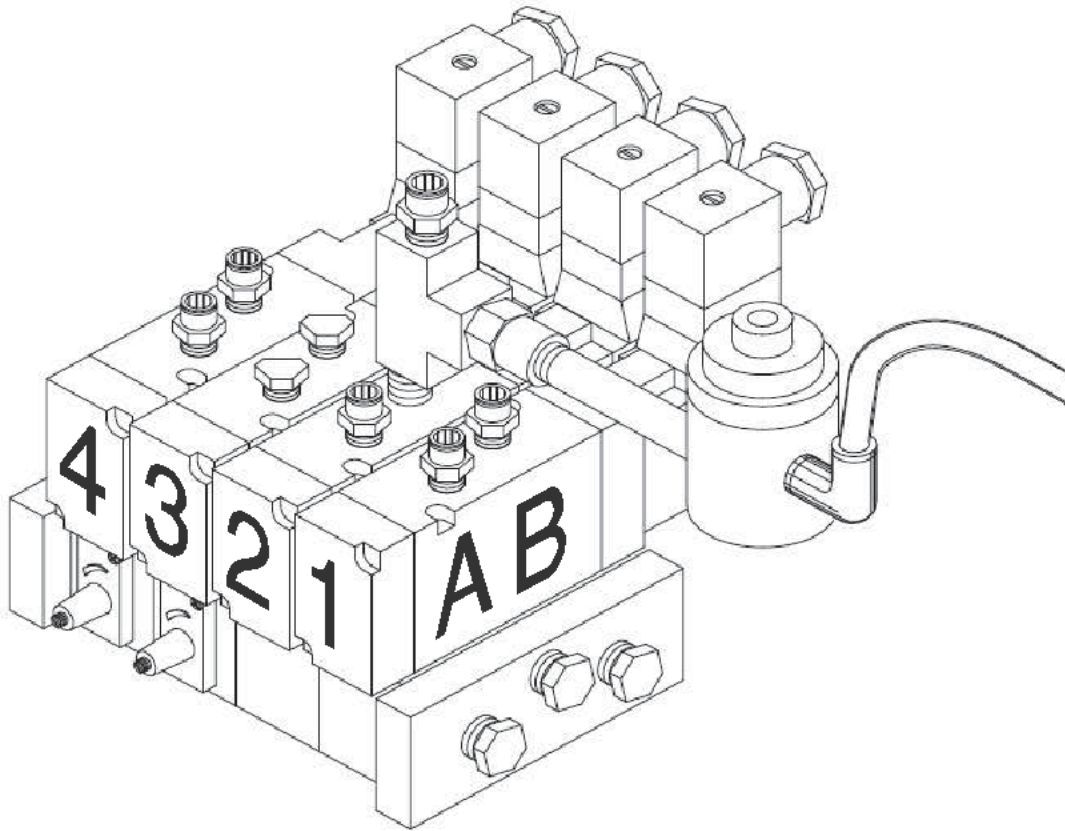

FIGURE 26
REFER TO FIGURE 26 BELOW.
- C. Loose connections in the air lines:** All of the air lines on this machine are the snap in connector type. To remove the hose, push in on the slide connector while pulling out on the hose. To reconnect the hose, simply push the hose into the connector as far as it will go. If there are any questions about where the hoses connect, **REFER TO FIGURE 26 ON THE PRECEDING PAGE.**